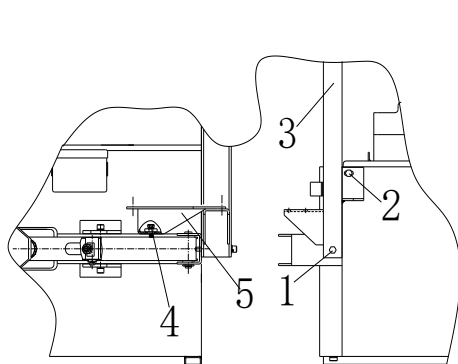
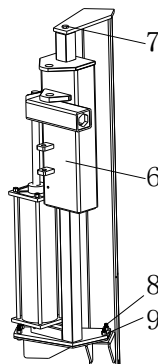

Fig 10
Fig 11
- 2) Install the column 3 with screw 1 and 2; install the support 5 of the auxiliary arm with screw 4; (Fig 10)
- 3) Install the help arm 6 with nut 7 and screw 9, then tighten 4、7、8、9 (Fig 10 、 Fig 11) ;